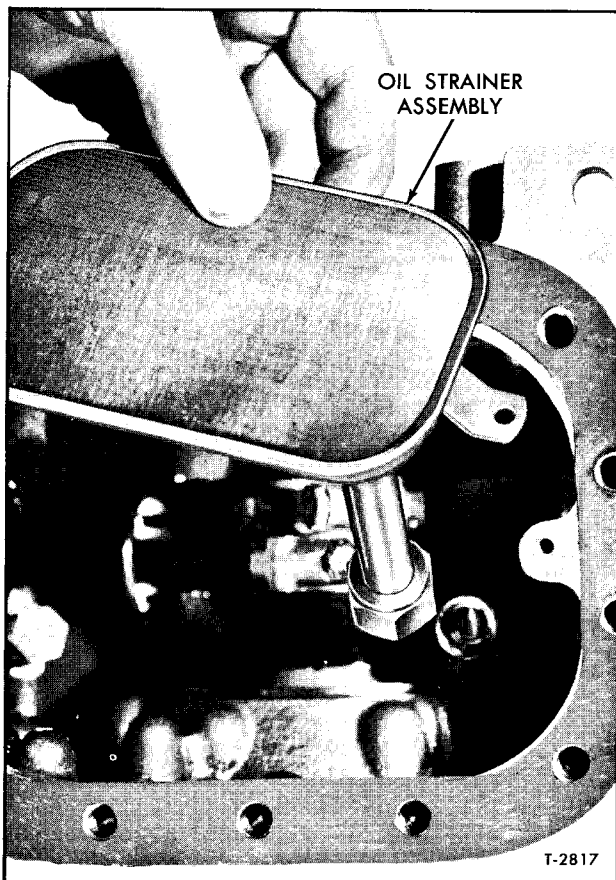

Figure 34—Removing Crankcase Oil Strainer Assembly
1. Remove cover attaching bolts. If necessary, tap the cover with soft hammer to loosen. Remove cover and cover gasket (64).
2. Remove two screws (63) which attach oil strainer (62) to crankcase (fig. 34).